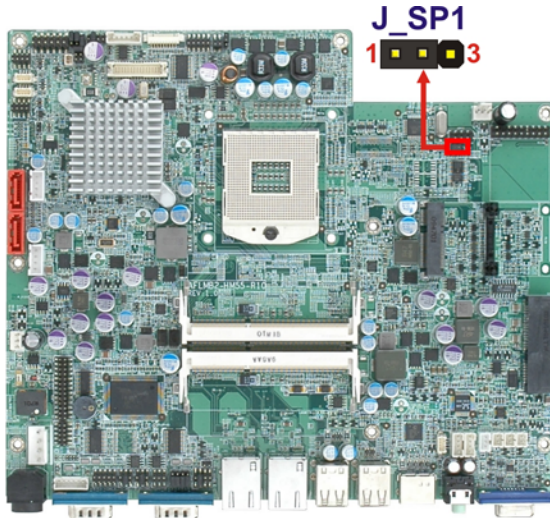

Figure 3-15: SPI Jumper Location
- Jumper Location:** See Figure 3-15
The SPI jumper location is shown in Figure 3-15.